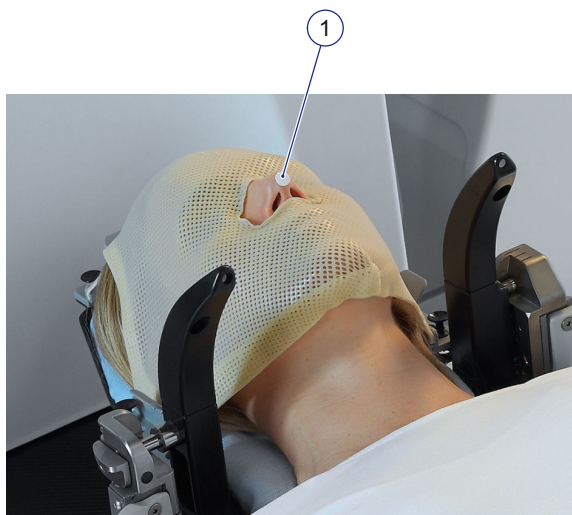

Figure 5.18 Patient marker on the patient docked with mask
- 1 Put the patient marker (1) on the nose of the patient, see Figure 5.18.